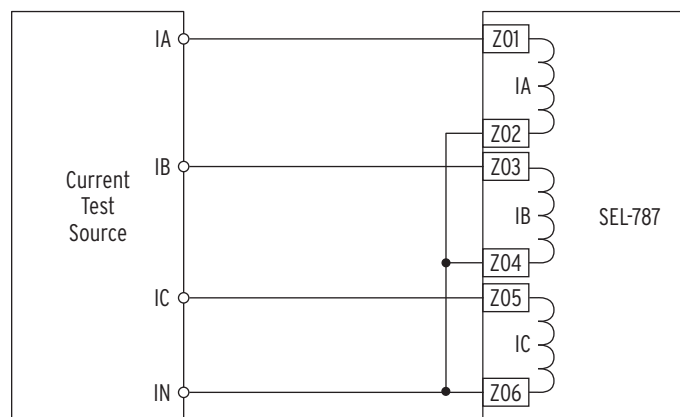
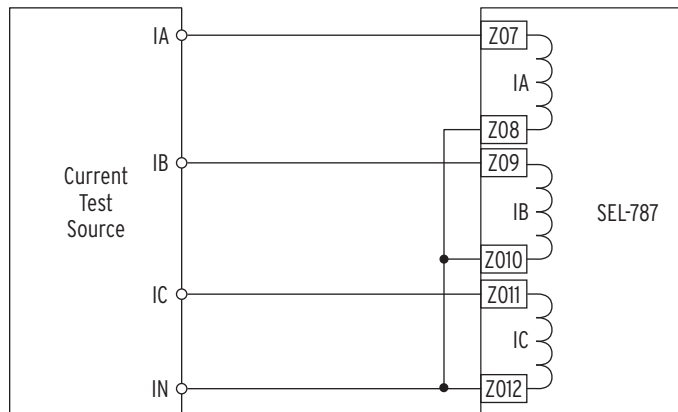

Figure 10.4 CTR1 Current Source Connections
Figure 10.5 CTR2 Current Source Connections
Step 1. Connect the current source to the relay, as shown in *Figure 10.4*.
Step 5. Repeat *Step 1* through *Step 4* using *Figure 10.5* and *Table 10.4*.
- Step 1. Connect the current source to the relay, as shown in *Figure 10.4* (VIWDG = 1) or *Figure 10.5* (VIWDG = 2).